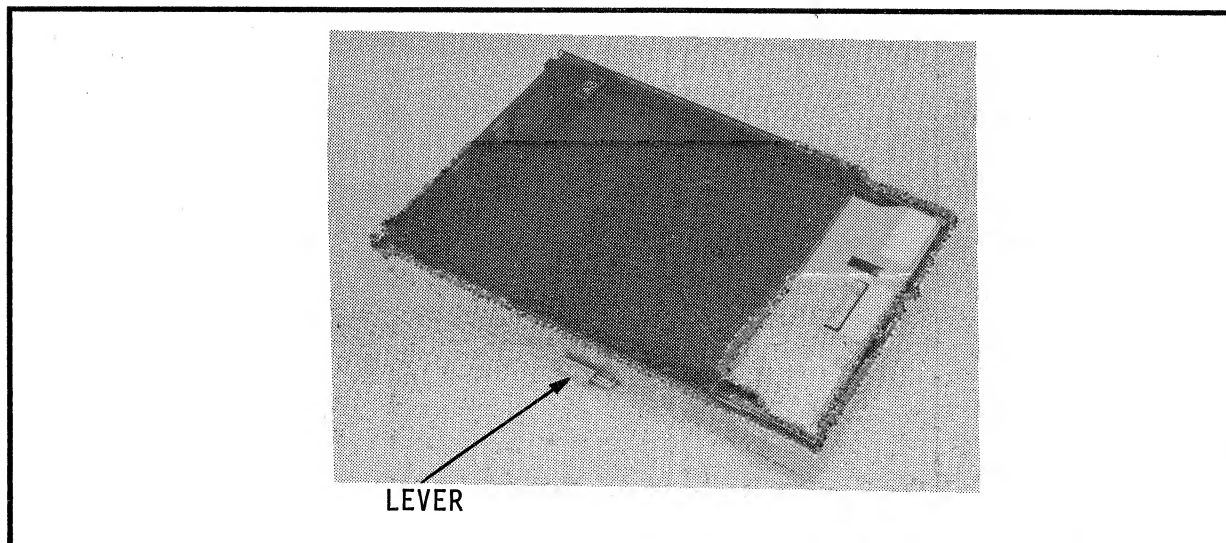

Figure 3-11. Media Cassette
1. Prepare the media cassette with the lever (Figure 3-11).